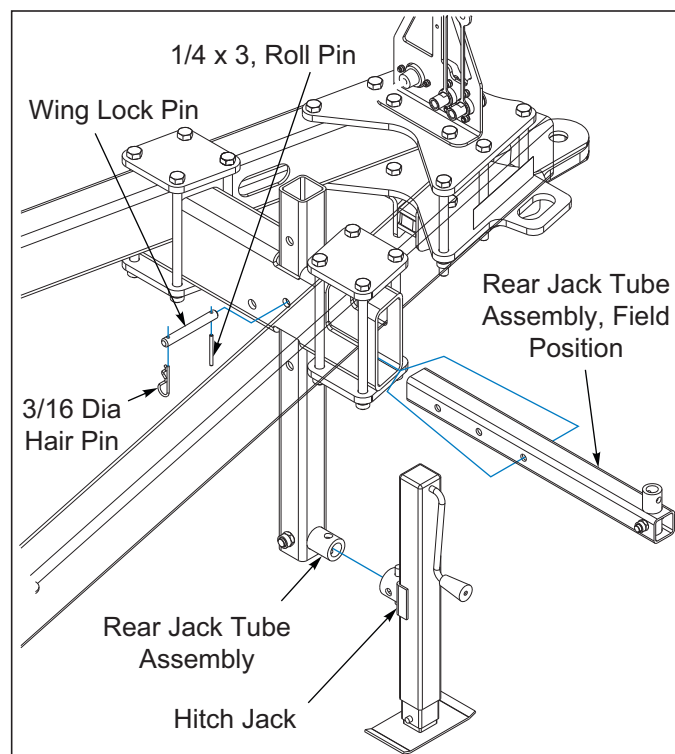

Figure 4-19: Rear Hitch Jack Operation
1. Remove the 3/16 dia hair pin from the wing lock pin and slide the rear jack tube assembly out of the hitch jack mount, field position **See Figure 4-19**